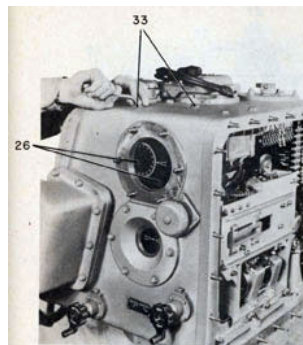

Figure 108-Removal of Own Ship Course Unit.
26. Remove and examine own ship course dials and dial shields. Repaint or straighten as necessary. Figure 108.
33. Remove five bolts in top of director which hold the own ship course unit in position. See figure 108.